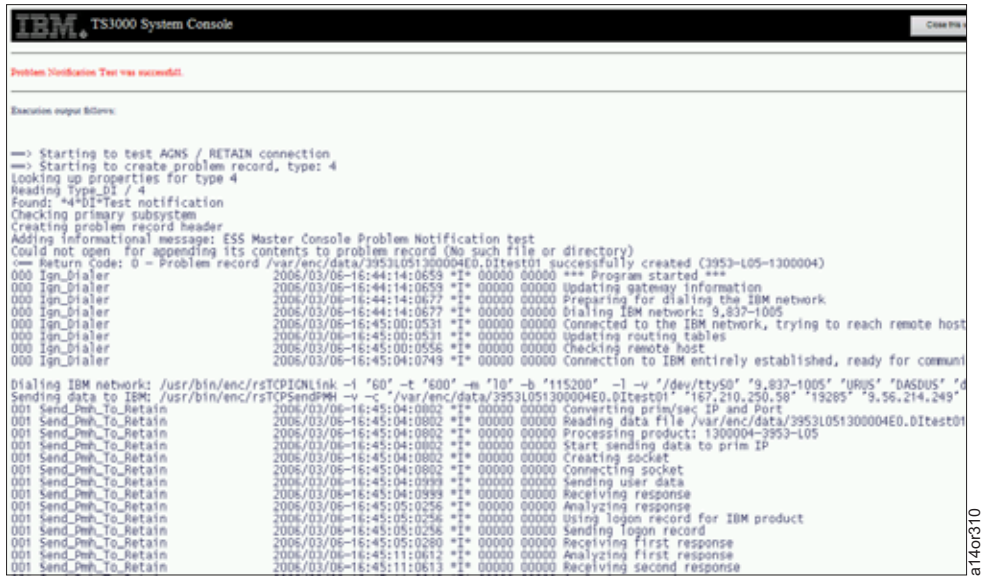

Figure 3-76. Test RETAIN Connection Results Screen - As a Service Procedure
2. Select the test you want to run from the list on this menu. You see Figure 3-76 on page 3-56.